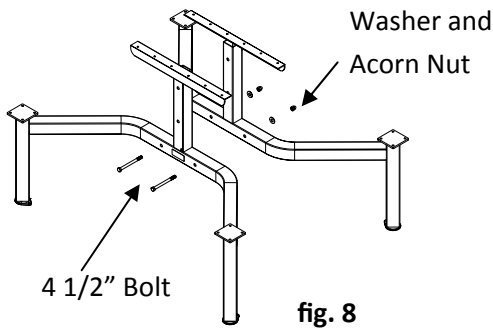

fig. 8
- Align lower holes in 2 leg frames. Using 3/8"-16 x 4.5 hex head cap screw, 3/8" washers, and acorn nut, assemble the two leg sections together. **(fig. 8)**